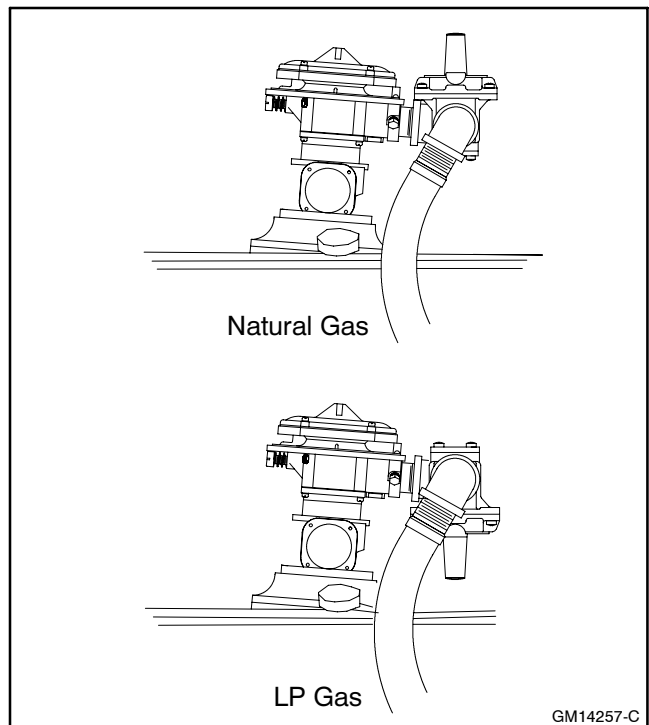

Figure 7-21 Fuel Regulator Position for Natural Gas to LP Gas Vapor Conversion
- See Figure 7-21 for natural gas fuel regulator configuration. The fuel regulator is pointing upward for use with natural gas.
- Rotate the fuel regulator 180° clockwise (CW) so that the fuel regulator is pointing downward for use with LP gas as shown in Figure 7-21.
- Apply pipe sealant to the elbow threads and locate the fuel line with elbow to the opposite side of the fuel regulator as shown in Figure 7-21. Apply pipe sealant to the threads on the other end of the fuel line and attach to the fuel supply connection.